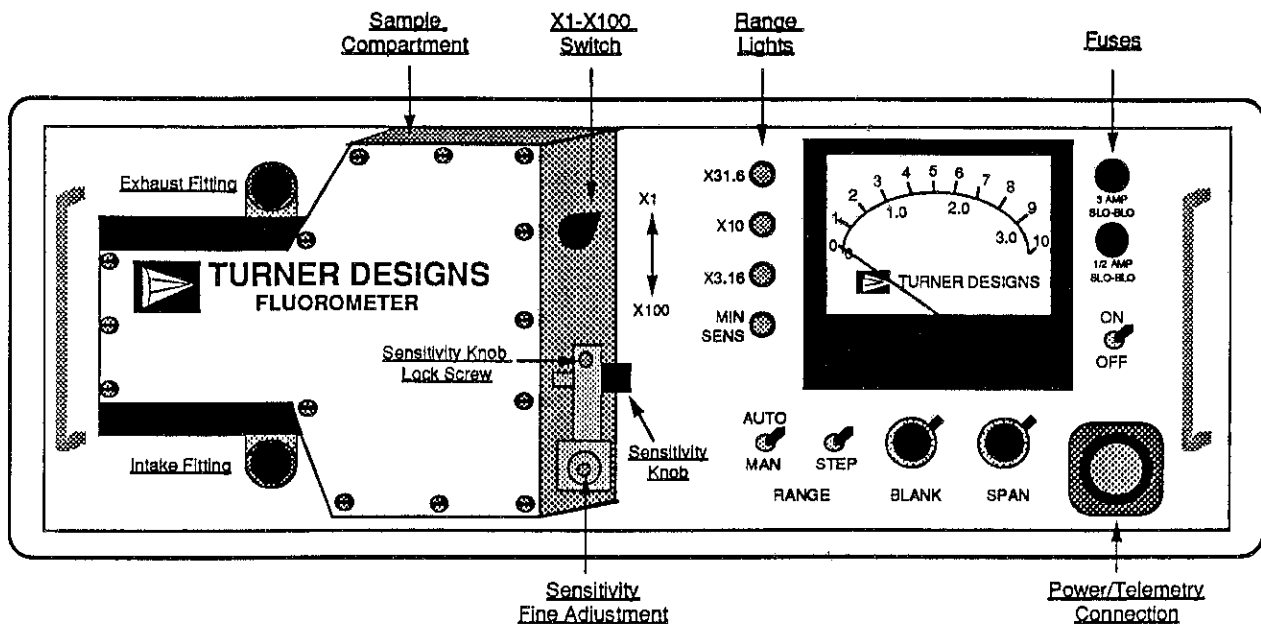

Figure 1. Model 10 Fluorometer Controls & Indicators (shown with Continuous-Flow Cuvette)
The Model 10 Fluorometer has been designed so that no internal controls will require setting during normal operation of the instrument. All operating controls are on the front panel. (Refer to Figure 1.) Note their locations, but do not make any adjustments just yet.
#1 **Sensitivity Knob.** This knob, the Sensitivity Fine Adjustment, and the Sensitivity Knob Lock Screw are located on the lower right side of the sample compartment casting. (See Figure 1.) The Sensitivity Knob sets the basic sensitivity of the instrument to both sample and blank. The knob is a coarse adjustment; the Fine Adjustment can be used for precise adjustment, but normally is used only during tuneup of the range multipliers. (See Section 3.5.2.)
- #2 **X1-X100 Switch.** This switch is located on the upper right side of the sample compartment casting. Its positions are indicated on the front panel. (See Figure 1.) By flipping this switch, the sensitivity is changed 100-fold. When in the X1 position, the sensitivity of the instrument is indicated by the range light lit; when in the X100 position, the sensitivity is 100 times what is indicated by the range light lit.
- #11 **Sample Compartment.** Contains the High-Volume, Continuous-Flow Cuvette System (or cuvette holder for individual samples). Note the upper Exhaust Fitting and the lower Intake Fitting of the flow system. (Figure 1.)
To supply power, simply screw the appropriate power cable onto the power/telemetry connector at the front of the instrument (see Figure 1), and attach it to the desired power source.